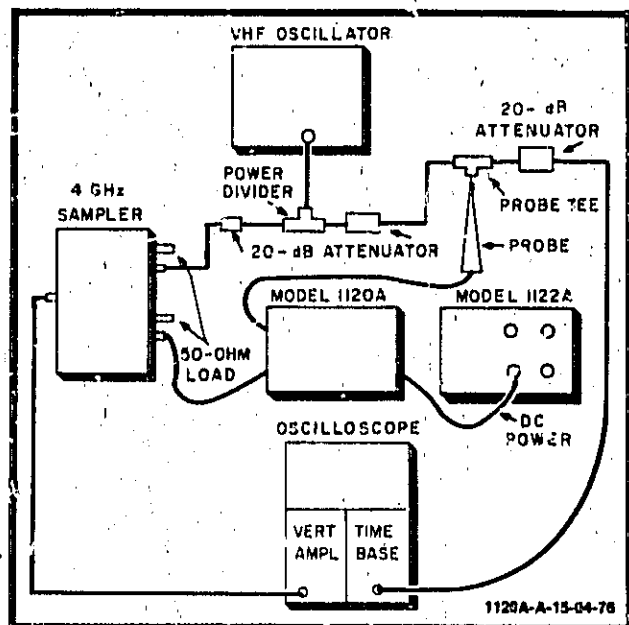

Figure 11. High-frequency Test Setup
27. Connect the equipment as shown in figure 11 for the High-frequency check.